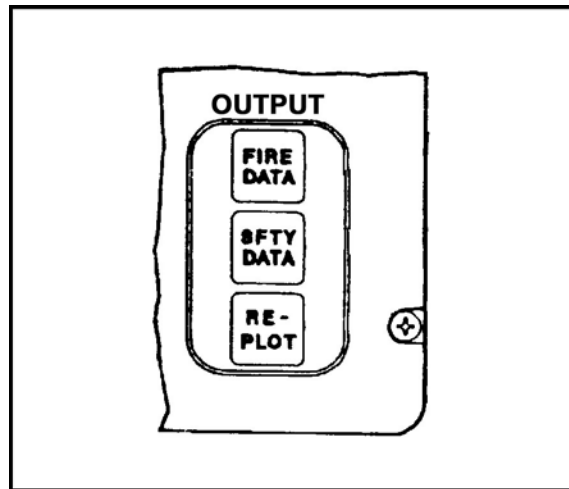

Figure 6. Output switches.
7. Once you determine the initial fire command, enter the remaining portion of the initial chart data. Find the range to the target and azimuth in the SAFETY DATA menu (Figure 6).